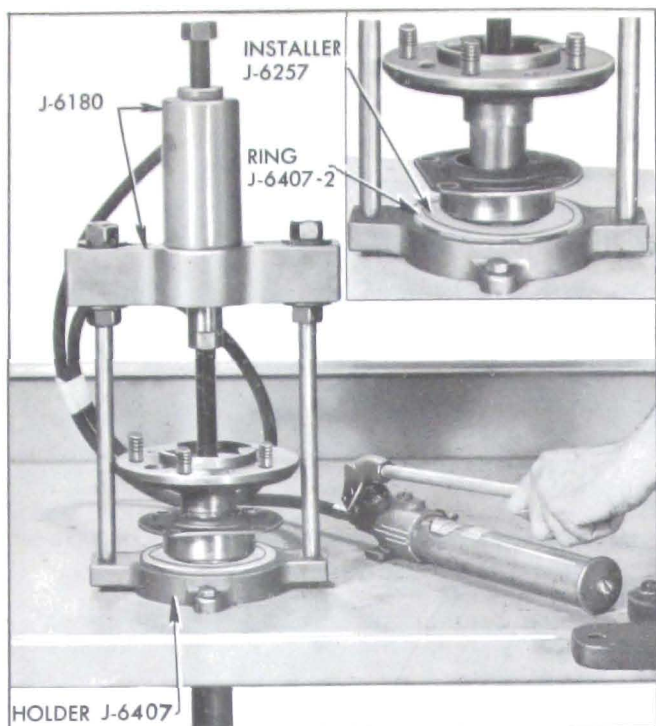

Figure 6-8—Installing Rear Wheel Bearing or Retaining Ring
3. Install bearing retainer plate. Press new wheel bearing against shoulder on axle shaft using Installer J-6257 either in a press or in a set-up using Ram and Yoke Assembly J-6180 and Holder J-6407 with Ring J-6407-2 shown in Figure 6-8. **CAUTION: Bearing retainer plate must be on axle shaft before bearing is installed; retainer gasket can be installed after bearing.**